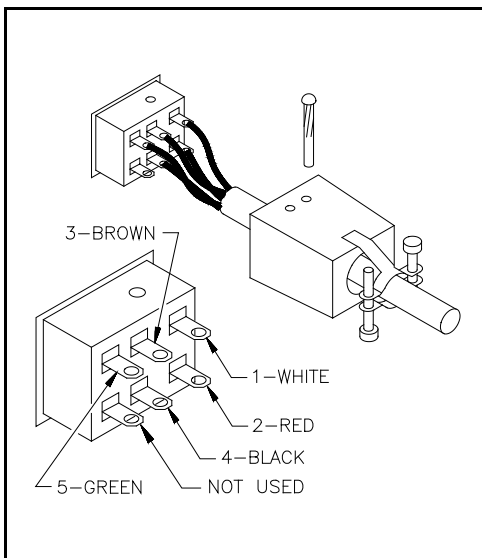

Figure 4. Five wire connector
- 5.2 A short in the connector at the end of the five wire cord is a prime cause for semiconductor failure. Loosen the strain relief clamp screws on the connector. See Figure 4. Push out the small pin in the connector with an awl or small diameter tool. Pull back the cover and examine the connections carefully. Make sure that the terminals are not bent and are separated by at least 1/8". Solder any loose or frayed connections and assemble the cover.